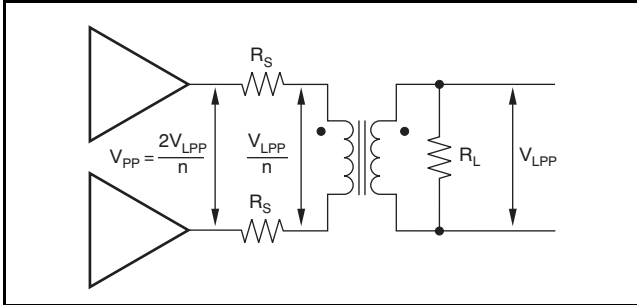

Figure 40. Driver Peak Output Voltage
with  $V_{PP}$  as defined in Equation 8, and  $R_M$  as defined in Equation 3 and shown in Figure 40.
The two output stages used to drive the load of Figure 40 can be seen as an H-Bridge in Figure 43. The average current drawn from the supply into this H-Bridge and load is the peak current in the load divided by the crest factor (CF) for the xDSL modulation. This total power from the supply is then reduced by the power in  $R_T$ , leaving the power dissipated internal to the drivers in the four output stage transistors. That power is simply the target line power used in Equation 4 plus the power lost in the matching elements ( $R_S$ ). In the following examples, a perfect match is targeted giving the same power in the matching elements as in the load.